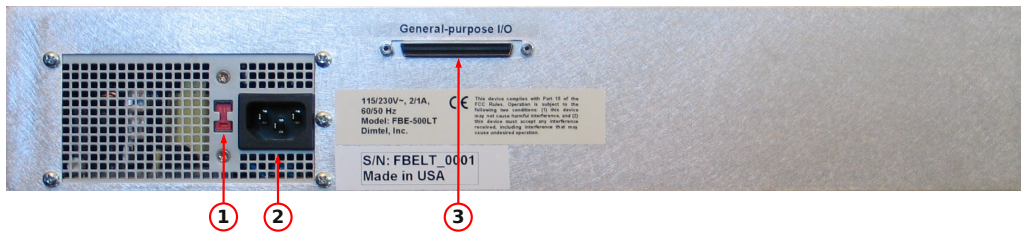

Figure 3: Rear panel features
WARNING: Before connecting power to the unit make sure the voltage selection switch (Fig. 3, item 1) is in the correct position (115 or 230 V).
1. Configure voltage selection switch (Fig. 3, item 1). Mains supply requirements for the FBE-500LT/NOBE are listed in Table 4;
9. Using the supplied 68-pin GPIO cable connect the iGp/iGp12 interface (Fig. 3, item 3) to the GPIO connector on the iGp/iGp12;